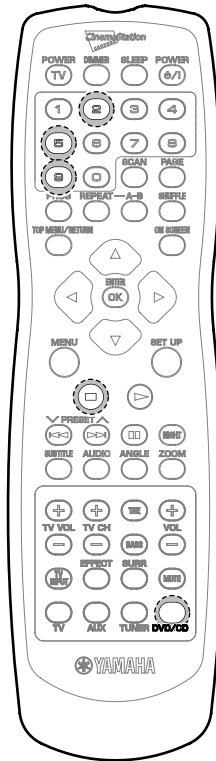

Fig. 2
2. Press the "DVD/CD", "⊖", "⊕" and "⊖" buttons on the remote control in that order. (Fig. 2)
2. リモコンの“DVD/CD”ボタンを押し、次に“⊖”、“⊕”、“⊖”ボタンを順番に押します。(Fig. 2)
1. Press the "DVD/CD" button and keep pressing the "⊖" button on the remote control. (Fig. 2)